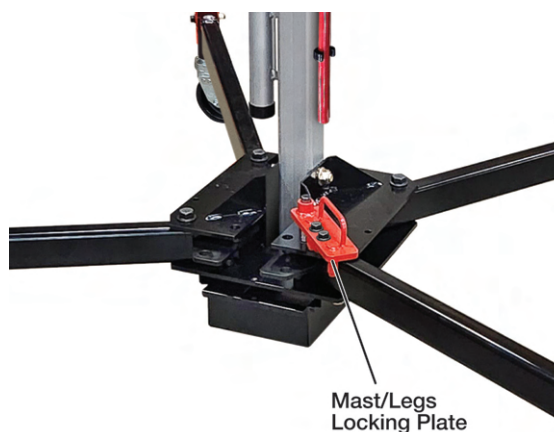

Figure 7-1: Mast/Legs Locking Plate Open
1. On the base, lift and swing open the red mast/legs locking plate (see Figure 7-1). This unlocks the base assembly legs and opens the square tube/mast slot. Leave this locking plate open until instructed to close it.